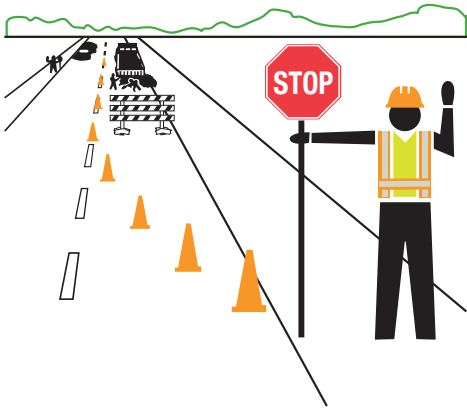

Figure 4
- Stop the first vehicle in the closed lane from the adjacent shoulder using the STOP/SLOW sign. **(Figure 4)**